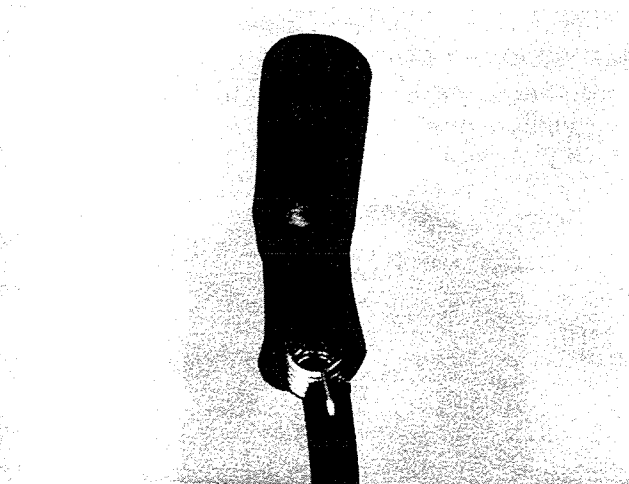

Figure 18. Sparkie Cover & Spring.
5. Remove sparkie cover and sparkie spring from end of lead wire. Figure 18.